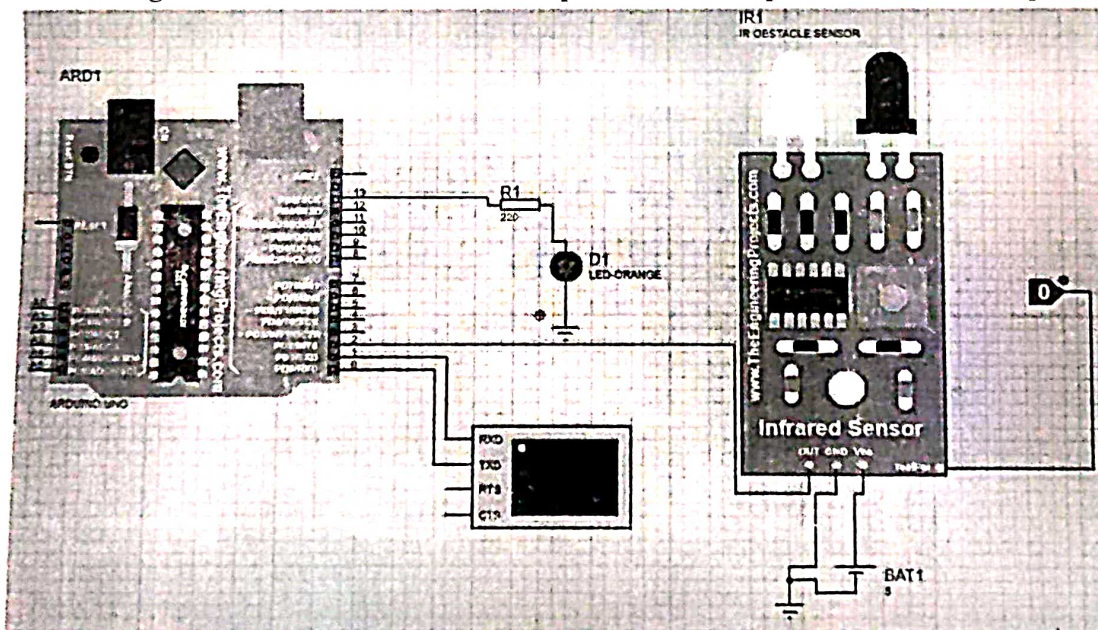

Figure 2: Connection Diagram of the Practical
9. Once the circuit diagram is completed as indicated in Figure 2, press the play button available at bottom left corner of simulation window as shown below (highlighted in red).